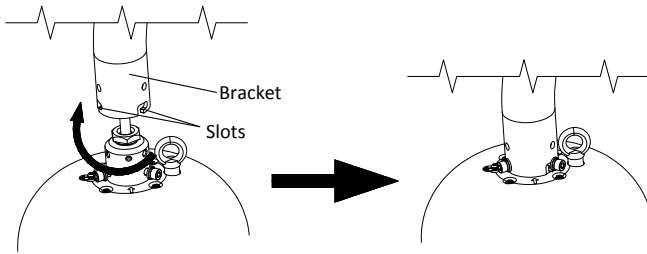

Figure 2-13 Rotate the Bracket
4. Align the bracket with the cable joint and rotate the bracket clockwise until three preassemble screws on the cable joint hooks onto three slots on the bracket as shown in Figure 2-13.